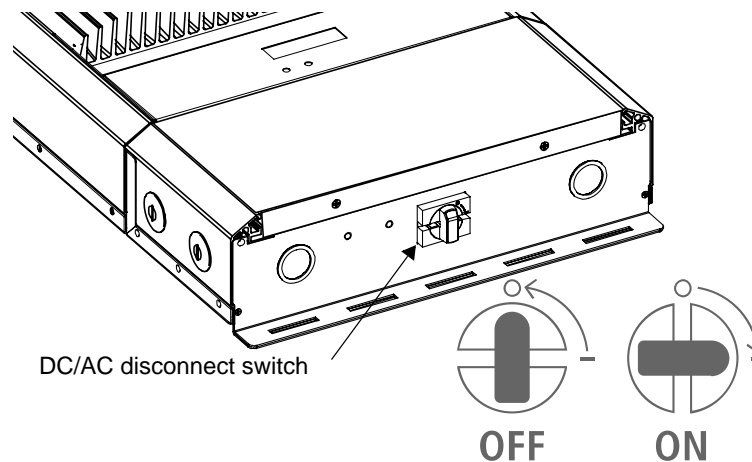

Figure 4-1 DC/AC Disconnect Switch Positions
1. Ensure the DC/AC disconnect switch is in the OFF position (see Figure 4-1).
1. Turn the DC/AC disconnect switch to the ON position (see Figure 4-1).